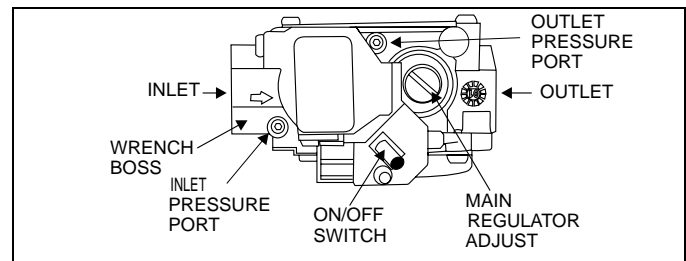

FIGURE 30: Gas Valve
Remove the condensate trap and its mounting bracket from the unit side panel. Remove all drain hoses. Reinstall the trap/bracket on the side panel, which will be on the bottom when the unit is located horizontally. Use the original mounting screws. Refer to Figure 30 for hose locations and Table 7 for hose cut lengths. All hoses are identified as shown in Figure 30.
- E. Use the 5/16" (7.94 mm x 1/8" (3.175 mm) reducing coupling and a 4" (101.6 mm) piece of 1/8" (3.175 mm) tubing to connect the positive side of the manometer to the gas valve pressure reference port. Refer to Figure 30 for connection details.